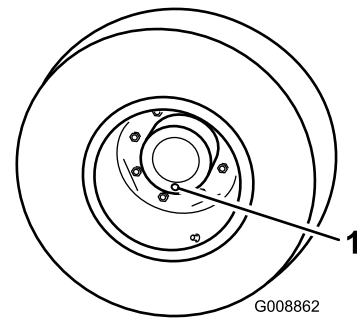

Figure 67
1. With the machine on a level surface, position a wheel so a check plug is at the lowest (6 o'clock) position (Figure 67).